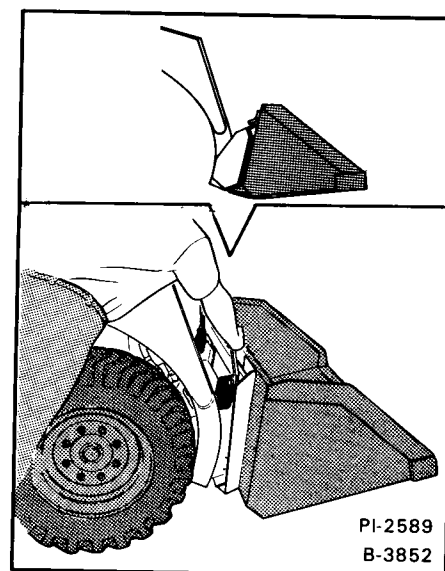

Fig. 27 Locking Bob-Tach Levers
4. Push down on the Bob-Tach levers (Fig. 27) until the levers are in the locked position.
Filling the Bucket (Fig. 27)